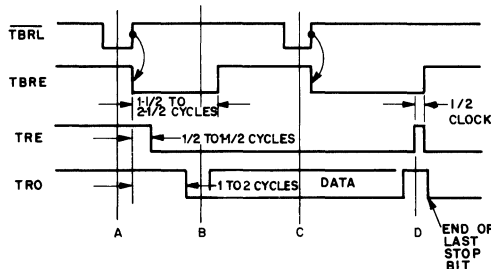

Fig. 3 - Transmitter timing waveforms.
Transmitter timing is shown in Fig. 3. (A) Data is loaded into the transmitter buffer register from the inputs TBR1 through TBR8 by a logic low on the TBRL input. Valid data must be present at least t_{DP} prior to, and t_{DP} following, the rising edge of TBRL. If words less than 8 bits are used, only the least significant bits are used. The character is right justified into the least significant bit, TBR1. (B) The rising edge of TBRL clears TBRE. $\frac{1}{2}$ to $1\frac{1}{2}$ cycles later, depending on when the TBRL pulse occurs with respect to TRC, data is transferred to the transmitter register and TRE is cleared. TBRE is set to a logic High one cycle after that.